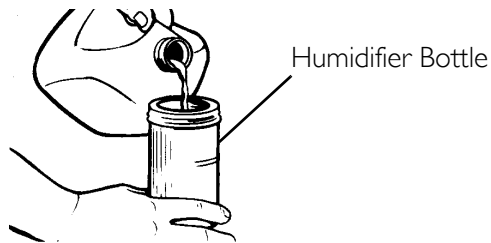
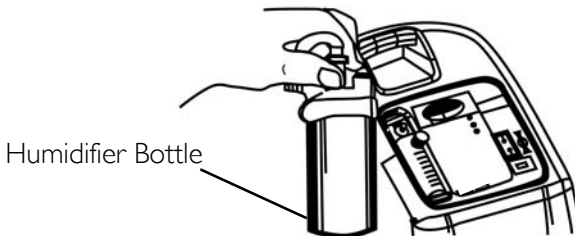
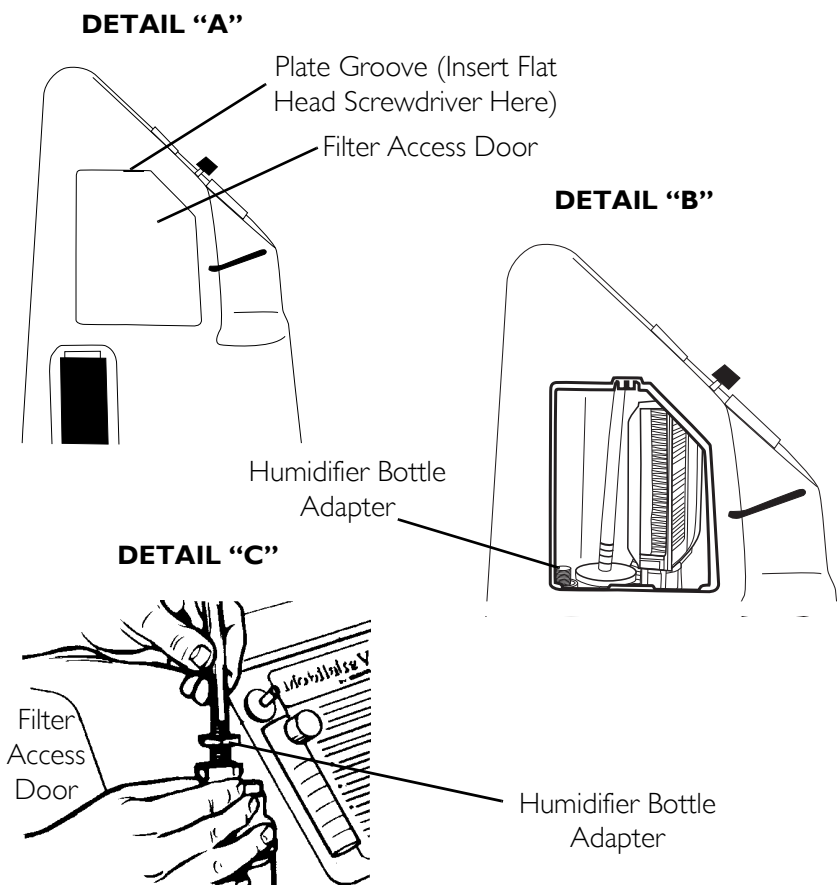
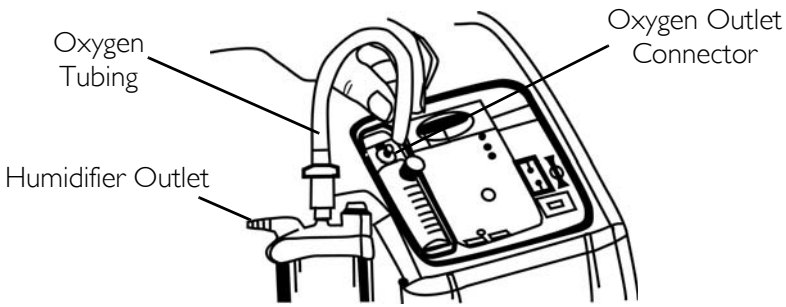

FIGURE 5.1 Filling the Humidifier
FIGURE 5.2 Humidifier Compartment
FIGURE 5.3 Attaching the Humidifier Bottle Adapter
FIGURE 5.4 Attaching the Oxygen Tubing
NOTE: For this procedure, refer to FIGURE 5.1, FIGURE 5.2, FIGURE 5.3 on page 21 and FIGURE 5.4 on page 22.
3. Remove the filter access door located on the side of the concentrator. Insert a flathead screwdriver in the plate groove on the top edge of the filter access door and gently pry the filter access door open. Refer to Detail "A" in FIGURE 5.3.
4. The humidifier adapter is next to the inlet filter. Pull up and remove the humidifier bottle adapter. Refer to Detail "B" in FIGURE 5.3.
5. Attach it to the humidifier by turning the wing nut on the humidifier bottle counterclockwise until it is securely fastened. Refer to Detail "C" in FIGURE 5.3.